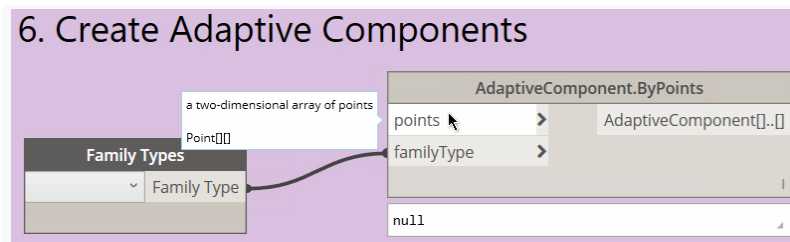

FIGURE 93
8. Select both nodes and group them. Name the group: **6. Create Adaptive Components** (see Figure 93).